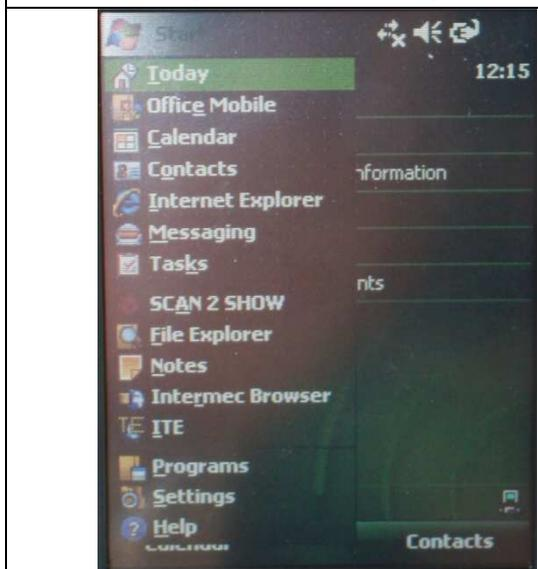

Figure 8 Navigate to Start-Programs and find
- Under Programs find “Scan 2 Show” and start it by tapping on it (Figure 8, 9)